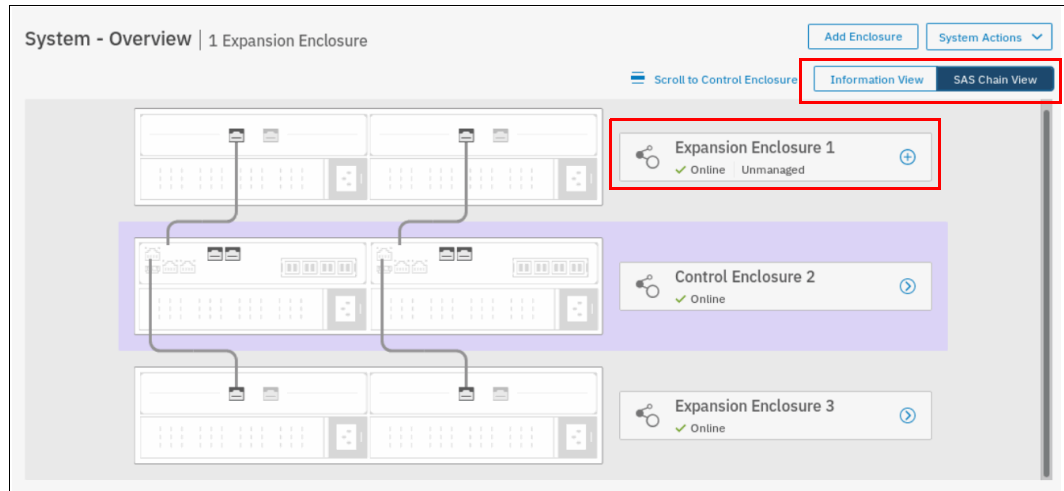

Figure 4-114 Newly detected expansion enclosure
1. In the System window that is available from the **Monitoring** menu, select **SAS Chain View**. Only correctly attached and powered on enclosures appear in the window, as shown in Figure 4-114 on page 233. The new enclosure is showing as unmanaged, which means it is not part of the system.